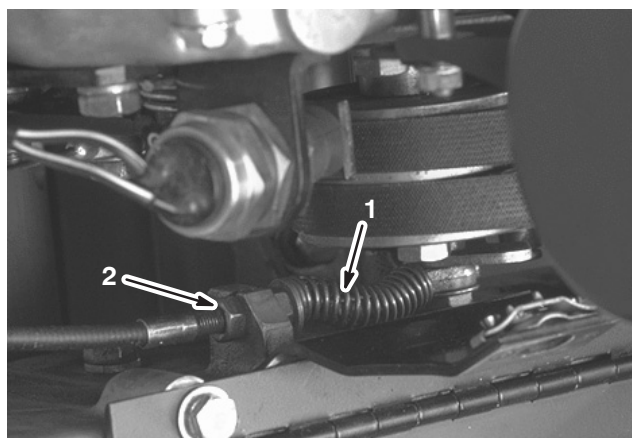

Figure 43
2. Loosen the retainer securing the V-belt cover and pivot the cover open (Fig. 43).
3. To increase the cable tension, loosen the front cable jam nut and tighten the back cable jam nut (Fig. 43) until a force of 3 to 5 lb. (1.5 to 2.3 kg) is required to engage brake. Measure the force at the lever knob. Do not over adjust it so that the brake band drags.